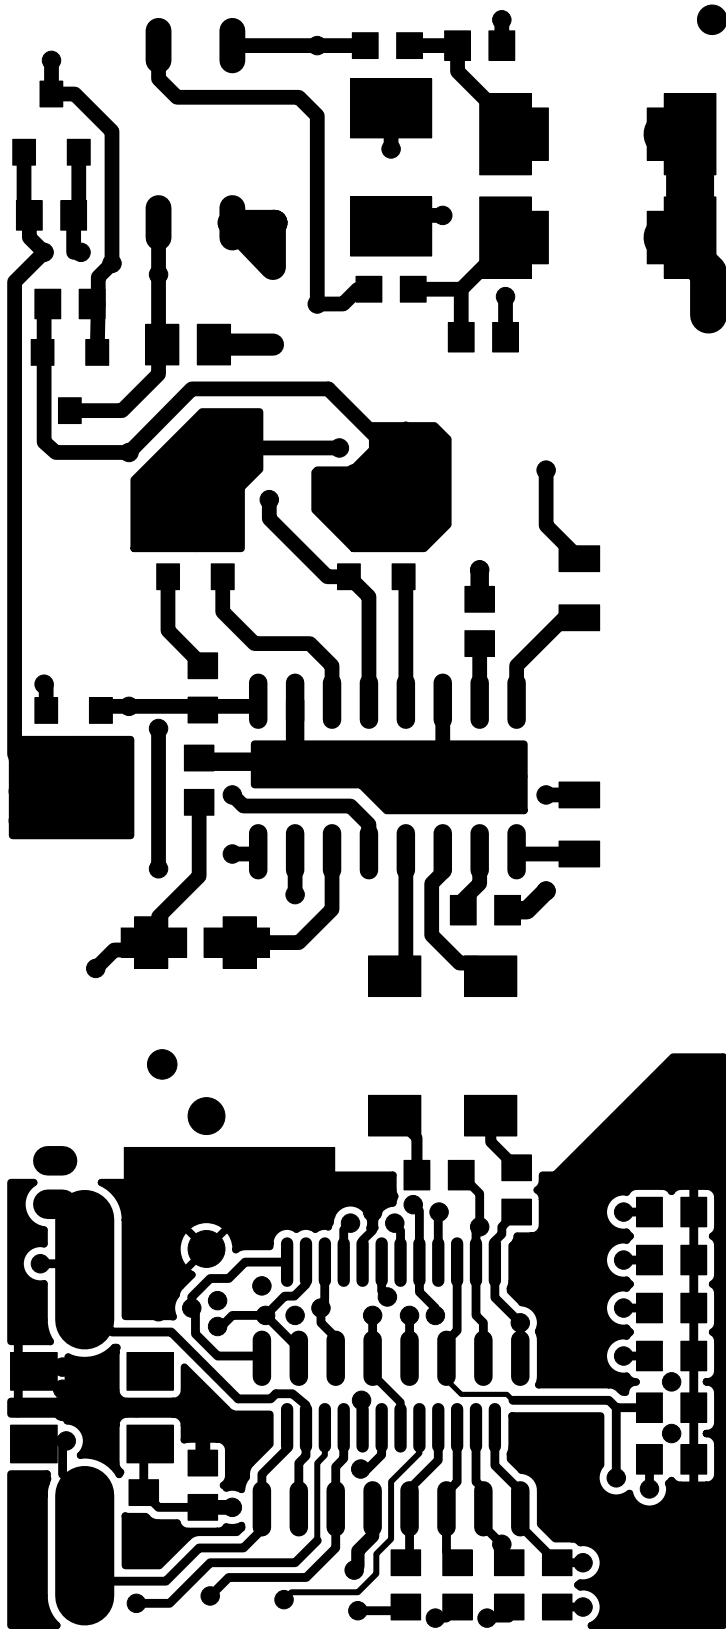

Figure 16. Daughter Card Primary Side Layout
- Updated Figure 16, “Daughter Card Primary Side Layout,” on page 25.